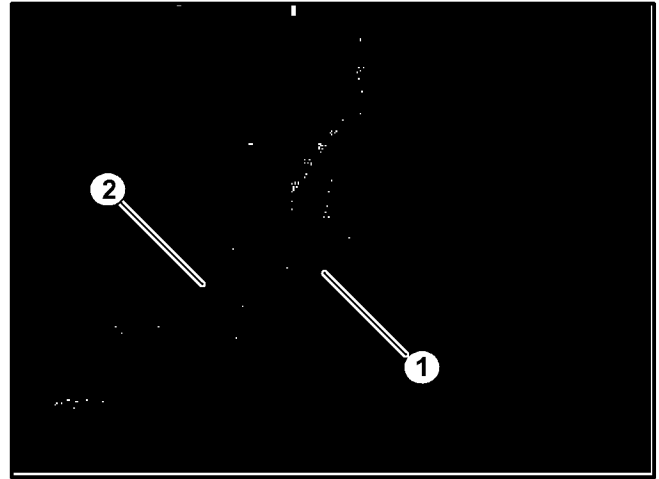

FIGURE 4
2. Start the two (2) set screws into the reel pulley.
6. Place the new belt(s) between the idler pulley and the snubber on the idler arm then over the engine and reel pulleys. See Figure 4.